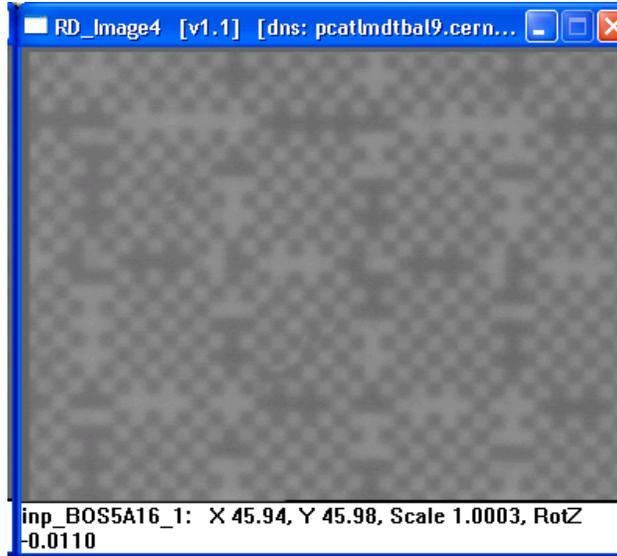

Figure 2.3: Image viewer of Server #4
2. Select and start the image-viewer of the PC the channel belongs to. For each server there is a separate executable. They reside in `C:\Balign\bin\image`. A shortcut on the desktop for each server might be convenient. As an example Figure 2.3 shows the viewer of server #4. During normal operation the viewer shows the images of the channels at a rate of 1 Hz.
9. *Grabbing*: to be used whenever there is serious doubt on the optical connection to the channel. Pressing the Start button triggers the Rasdim server to take images as fast as possible. A picture, as shown in Figure 2.3, should be seen. The Stop button terminates the grabbing. Another possibility is to reset the TopMux (by means of the Reset Mux button).